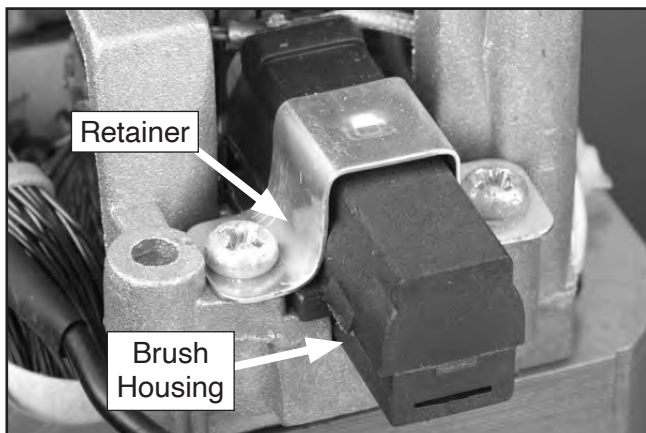

Figure 31. Retainer removal.
5. Remove (2) retainer screws for each brush housing and remove retainers (see **Figure 31**).